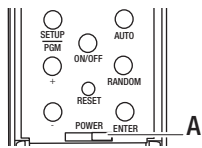

Figure 2
- Slide the power switch (A) to the ON position (to the right). The display will not appear until the switch is on. See Figure 2.